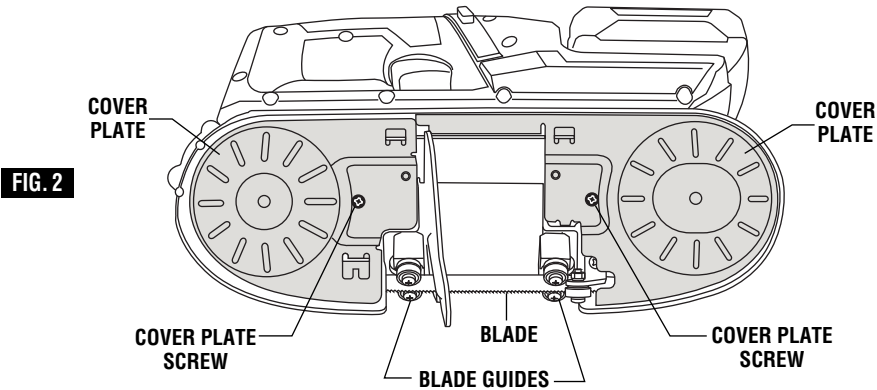

FIG. 2
1. Use #2 phillips to remove mounting screws and remove protective cover plates (Fig. 2).
3. Re-install protective cover plates (Fig. 2).